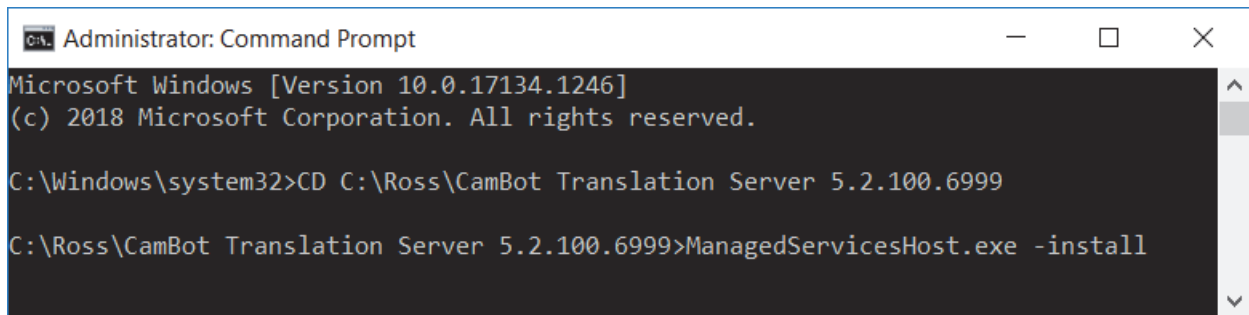

Figure 4 - Installing ManagedServicesHost.exe
5. At the command prompt, type **ManagedServicesHost.exe -install**, and then press **Enter**. See **Figure 4**.